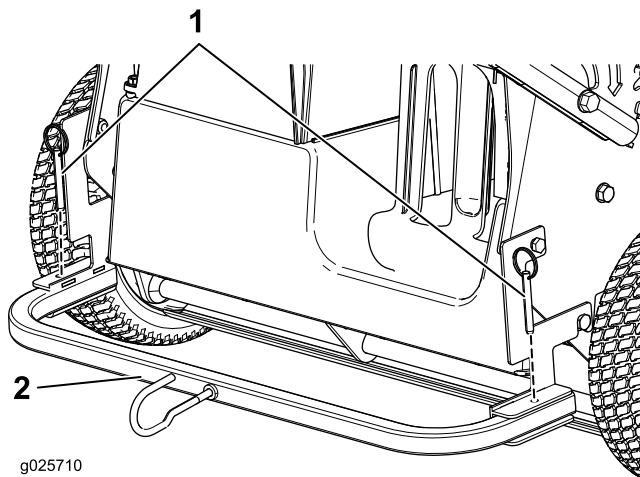

Figure 2
5. Slide the frame into the bracket with the hook facing up and secure the frame to the bracket using 2 spring pins (Figure 2).